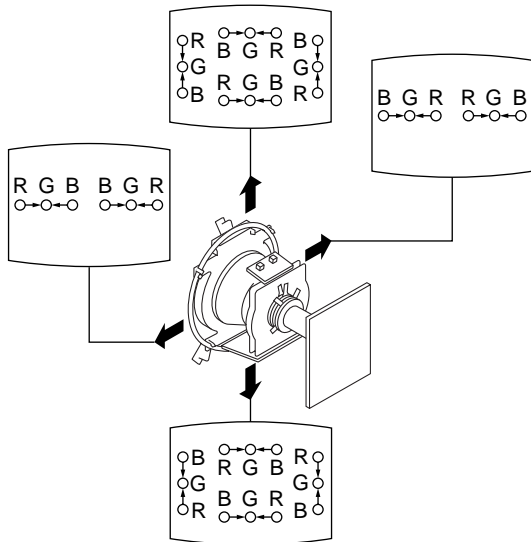

Fig.3-7
- Adjust by the deflection yoke (swivel) to screen both sides cross mis-convergence become finest whole screen. (Fig.3-7)